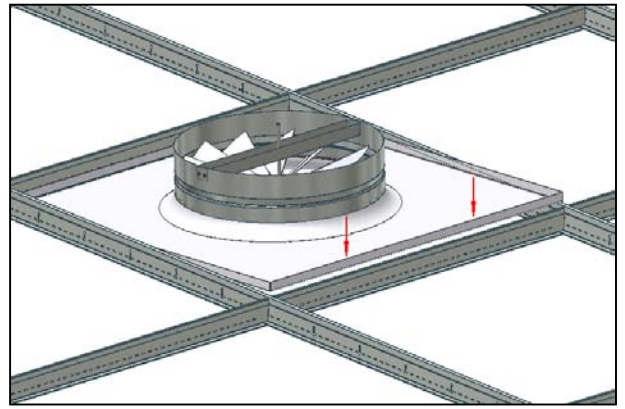

Figure 12: Lower Diffuser into place
6. Once the Diffuser is positioned, lower it into the opening, ensuring that it is firmly seated against the tee bars of the ceiling grid. (See figure 12).